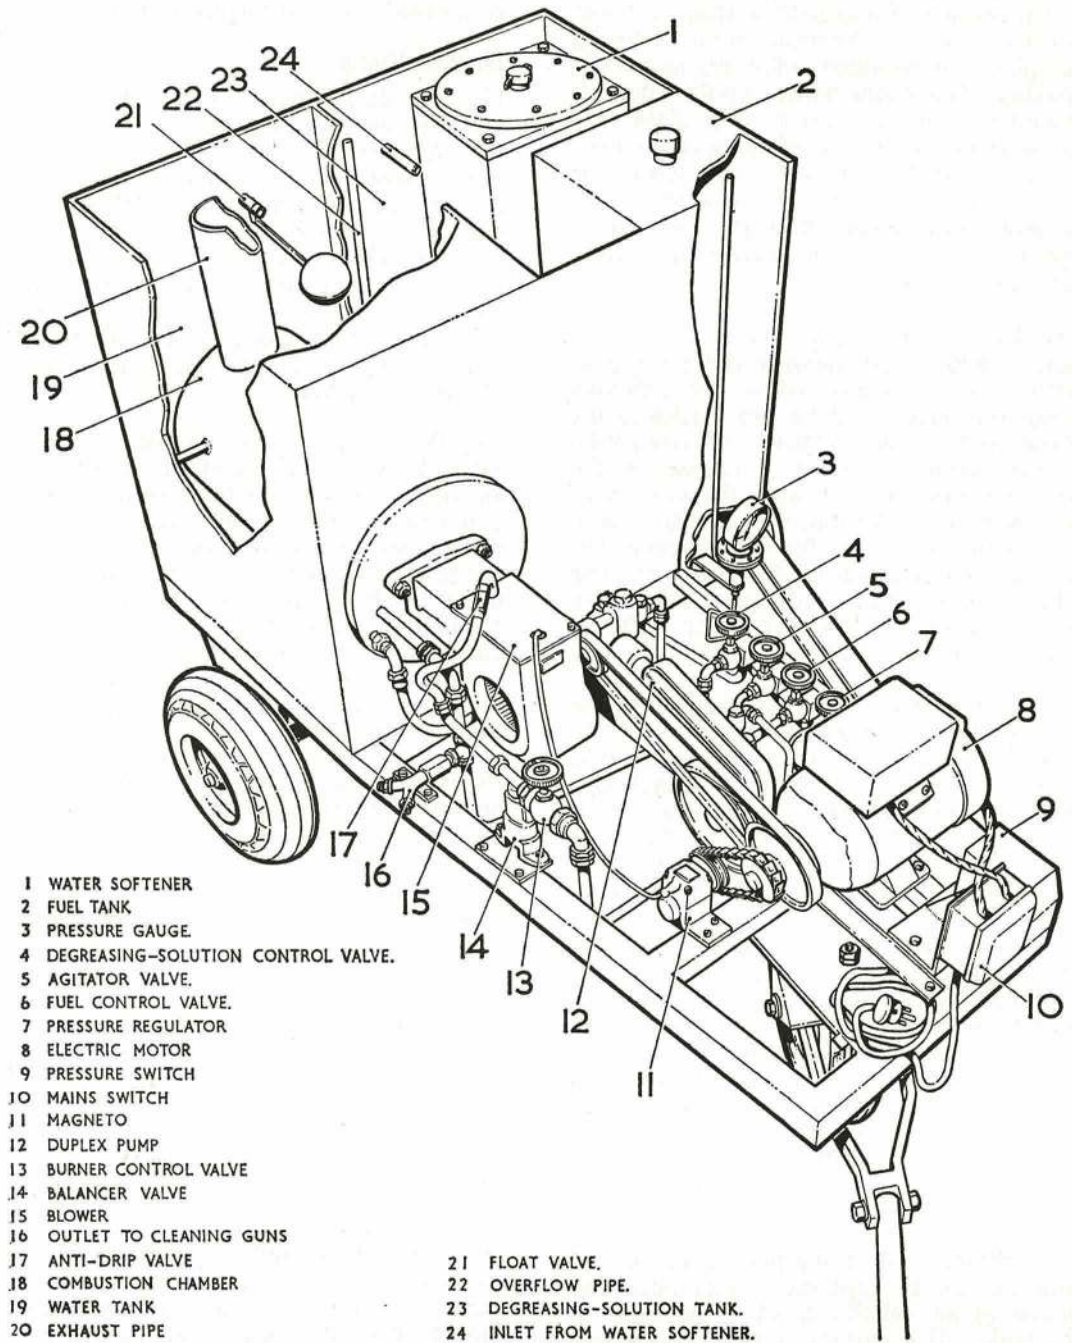

Fig. 2. LOCATION OF COMPONENTS
6. The chassis (Fig. 2) consists of a framework of steel channel sections upon which are mounted the water and steam systems, the electric motor and the duplex pump. Two pneumatic-tyred wheels rotate on an unsprung axle which is attached to the underside of the chassis. A swivelling fork is attached to the underside of the front end of the chassis. The fork accommodates a wheel and axle, and the attached draw-bar enables the plant to be positioned easily by hand.
8. The water system (Figs. 2 and 3) which consists essentially of a water softener, a water tank and a degreasing-solution tank, supplies a flow of soft water and degreasing solution to a duplex pump where the liquids are mixed and fed to the steam coil. The rate of flow of the degreasing solution is regulated by a hand-operated control valve.